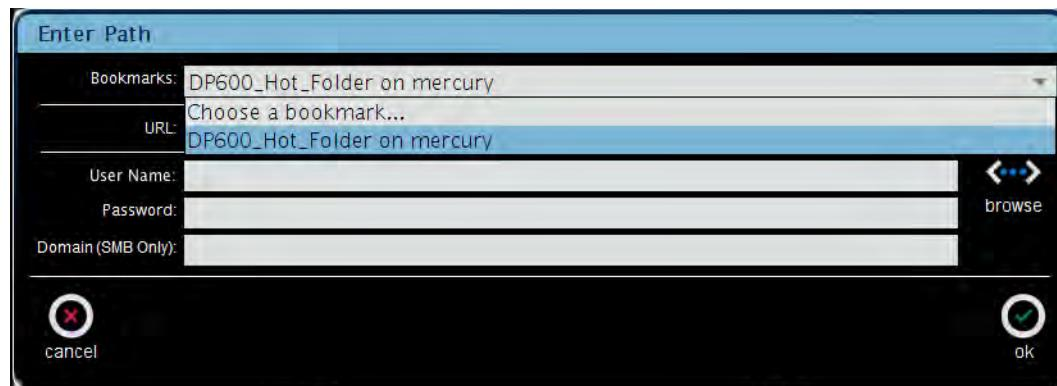

Figure A-11 Selecting a Bookmark
2. Select the desired bookmark in the drop-down menu to specify a path, then click **ok**, as shown in Figure A-11.